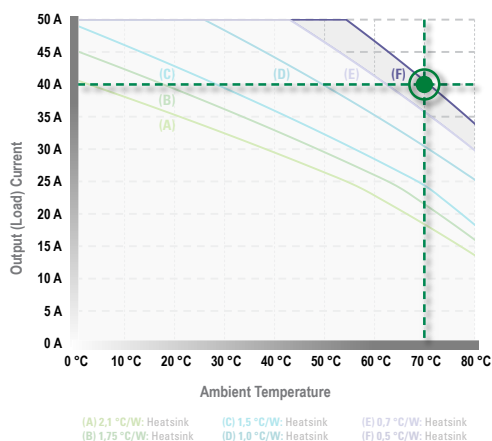

Figure 5. Intersection point on the curve
- From your current value on the vertical (Y) axis, draw a horizontal line across the chart.
- From your ambient temperature on the horizontal (X) axis, draw a vertical line.
- The point where these lines cross (see Figure 5) falls on a derating curve—this is your intersection point.